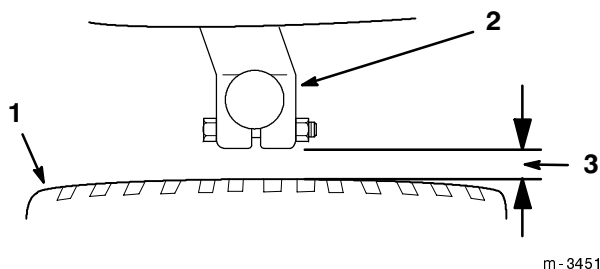

Figure 5
- 13.** Look at the end of the steering arm and the inside edge of the tire. The end of the steering arm and the inside edge of the tire must be parallel (Fig. 5). Adjust the steering arm if required.